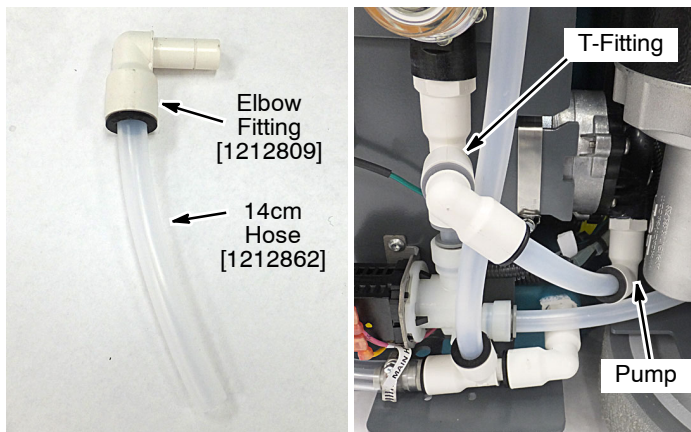

Fig. 29
13. Using elbow fitting and hose shown, connect to T-fitting and to the pump intake elbow fitting as shown (Figure 29).